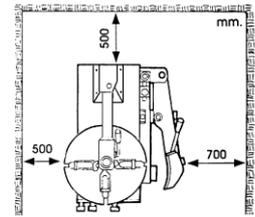

**Fig 1**
**When transporting the machine, it must be handled with a forklift truck with the forks. Positioned as show as in the Fig 1.**